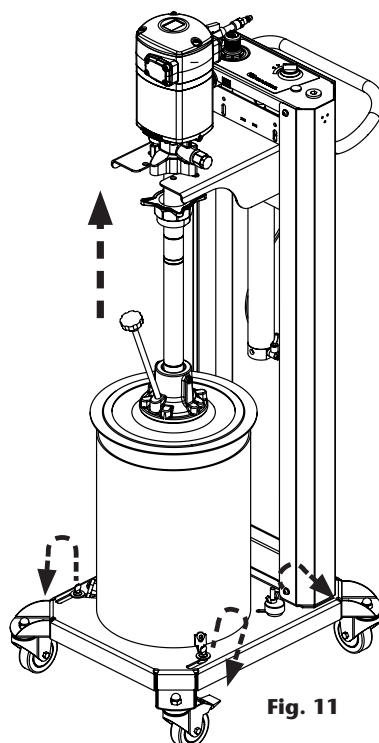

Fig. 11
2. Switch the lifter control to "up" Position. The pump and the follower plate are lifted (fig. 11).
3. Open the pail fasteners (fig. 11).